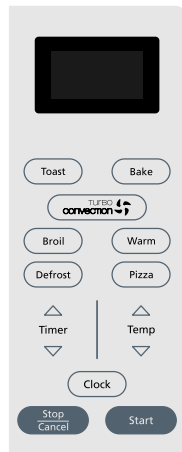

FIGURE 2
1. Function Buttons – (See Figure 2)